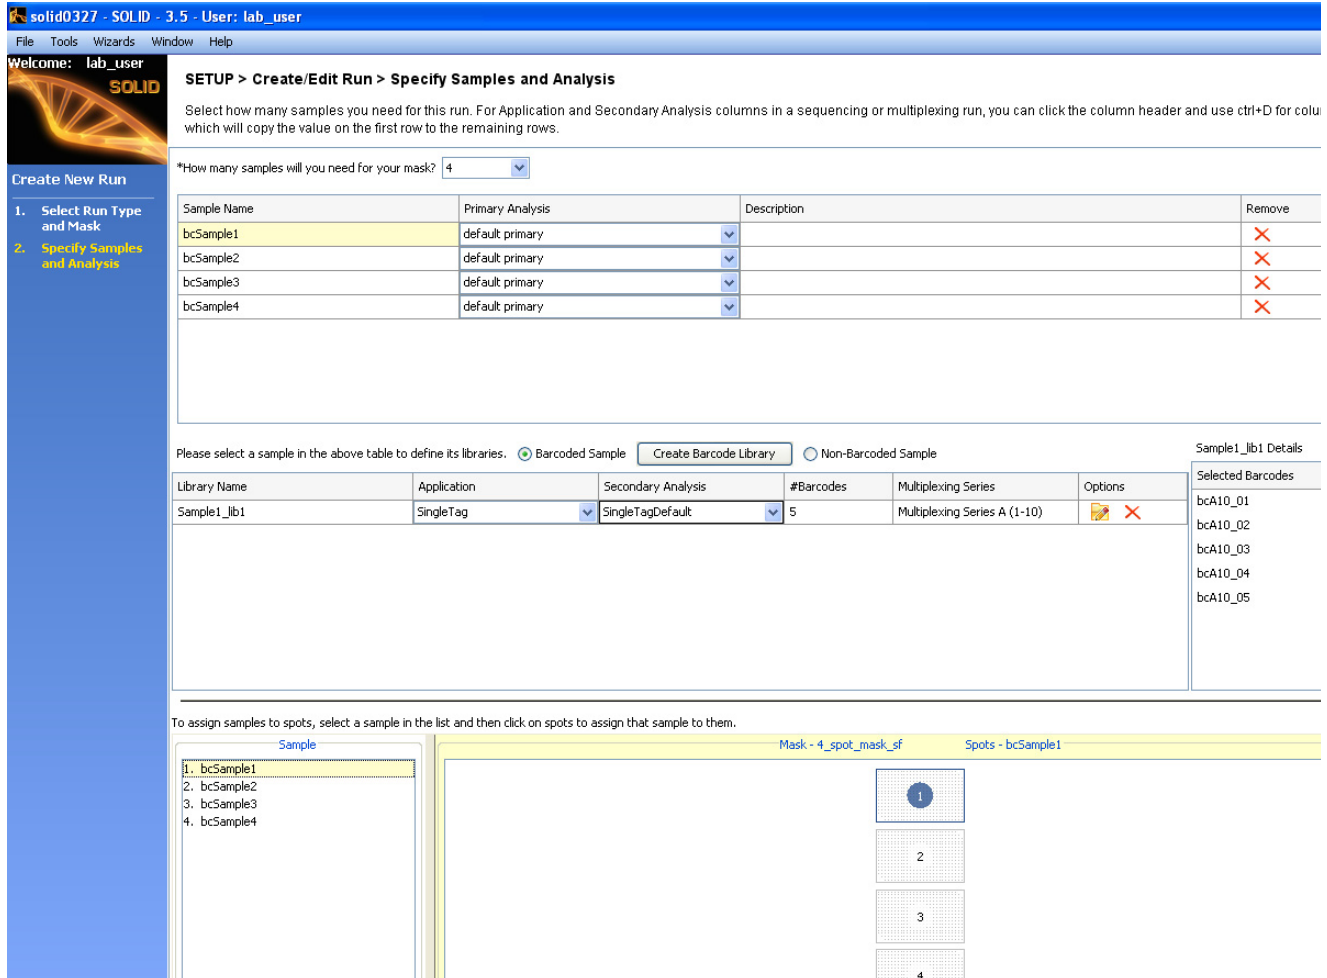

Figure 53 The Libraries panel shows information on all libraries.
8. Repeat steps 4 to 7 for all remaining libraries. The Libraries panel of the Specify Samples and Analysis screen now shows information for all libraries for a particular sample (see Figure 53 on page 60).